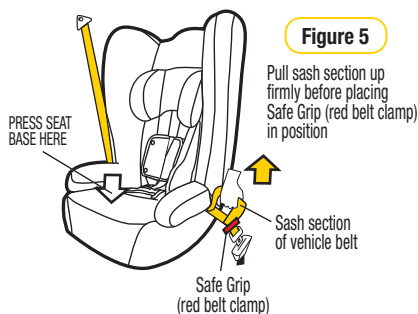
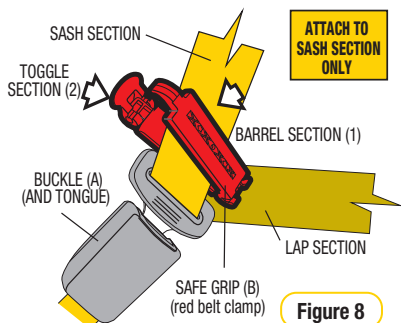

Figure 5
Figure 8
**Step 2:** Pull the shoulder harness straps through the shoulder slot holes in the seat body and cover. They are now loose in the front of the seat (see Figure 5).
**Step 6:** Push down on the base of the restraint (with knee or hand) whilst pulling the sash section of the vehicle belt firmly up in direction of the yellow arrow in figure 5. This will make the lap belt very tight across the seat base. Whilst continuing to pull the sash section up (i.e. maintaining tightness of the lap section) attach the **Safe Grip** (red belt clamp) on the sash section as close as possible above the buckle tongue. (Refer to Figure 8 and instruction for installing the **Safe Grip** red belt clamp below) Tighten sash section of belt across the base. Place layer of foam and seat cover back into position over the top of the vehicle belt.
To install the **Safe Grip** (red belt clamp), open it and clamp the “sash section” of the vehicle seat belt by closing the barrel section of the red belt clamp in the direction of arrow 1 in figure 8 and then locking with the toggle section by pushing in the direction of arrow 2 in figure 8 when the **Safe Grip** (red belt clamp) is secured in place, the lap section is now tightly holding your child restraint in place, independent of the sash section. The **Safe Grip** (red belt clamp) must be removed when the child restraint is not installed to allow other users to use the seat belt as a lap/sash seat belt. Always keep the **Safe Grip** (red belt clamp) in pocket provided when not in use.